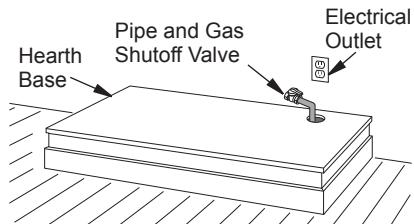

Figure 12 - Placing Hearth Base Against Wall
2. If blower is installed, install a properly grounded, 120 volt three-prong electrical outlet at fireplace location if an outlet is not there. If possible, locate outlet so cabinet mantel will cover it when installed (see Figure 12).
3. Place hearth base against wall at installation location. Cut an access hole in hearth base to run gas line to fireplace (see Figure 12). Make sure to locate access hole so cabinet mantel will cover it when installed. **Note:** You can secure base to floor using wood screws. Countersink screw heads and putty over.